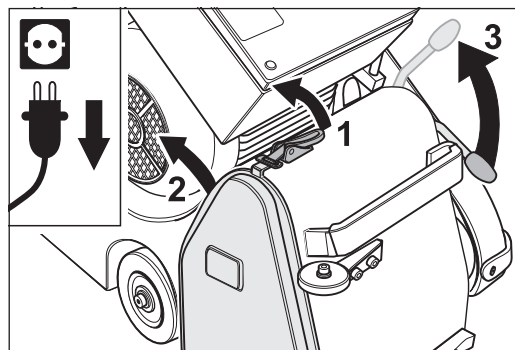

Fig. 14 Release the cover lock (1), remove the side cover (2) and lower the tensioning roller by pulling up the operating lever (3).
- 8 Release the cover lock (fig. 14, 1) and remove the side cover on the right of the machine housing (fig. 14, 2).
- 9 Pull the operating lever of the drive unit upwards (fig. 14, 3). This will lower the tensioning roller.